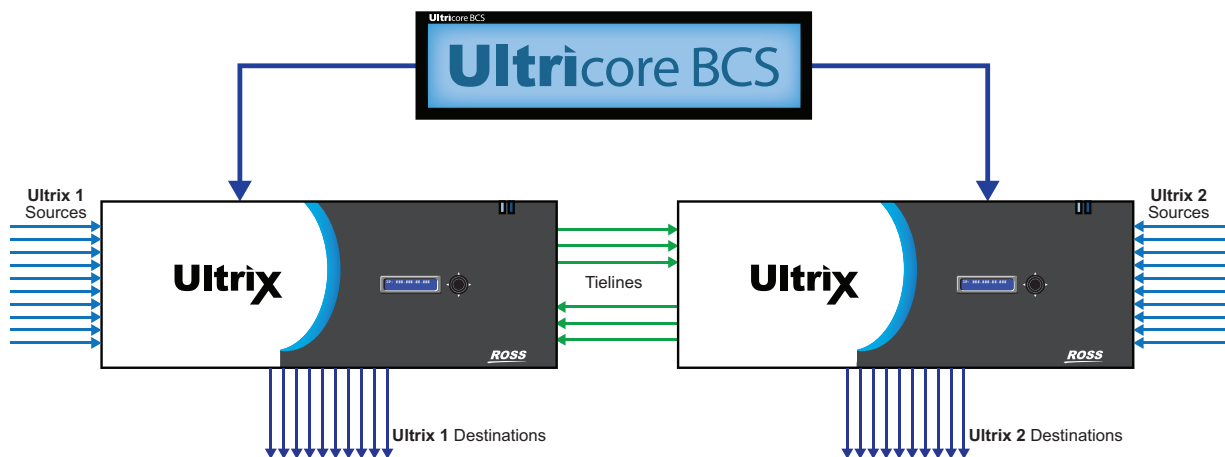
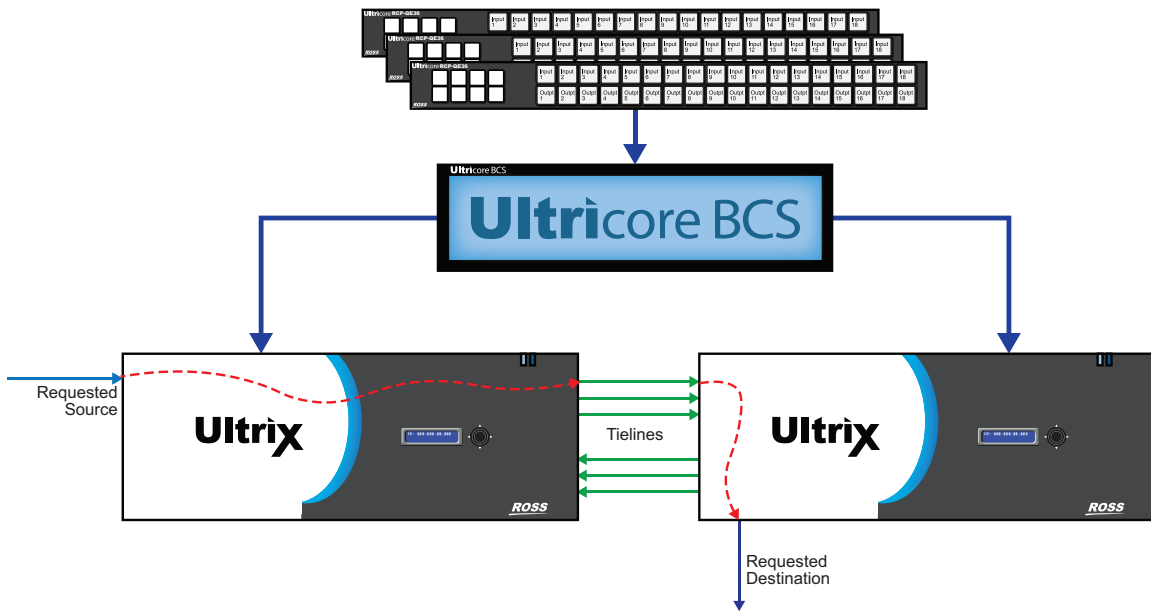

Figure 38 Example of a Distributed Routing System Work Flow with Tielines
Figure 39 Example of Tielines in a Work Flow
A tieline is a method of connecting two routers together so that they may share sources and destinations. How many inputs and outputs that can be shared depends on how many tielines have been provisioned, if the tielines are in use, or if a user has permissions to use them. **Figure 38** represents a two-way tieline connection between routers where one (or more) outputs of Ultrix 1 are connected to the inputs of Ultrix 2, and one (or more) outputs of Ultrix 2 is connected to the inputs of Ultrix 1.
Figure 39 illustrates a work flow where Ultrix 2 needs a source that is only present on Ultrix 1. The Ultracore BCS routes the requested source to a destination that is configured as a tieline, and on Ultrix 2, it will route the tieline source to the user selected Destination.
★ Tielines do not have to be bi-directional as represented in **Figure 38** and **Figure 39**.
In **Figure 39** the following occurred:
- b. Use the **From Device** menu to specify the router that will provide the start point for the Ultrix BCS tieline. In **Figure 39**, this would be Ultrix 1.
- b. Use the **To Device** menu to specify the router that will be the end point for the Ultracore BCS tieline. In **Figure 39**, this would be Ultrix 2.